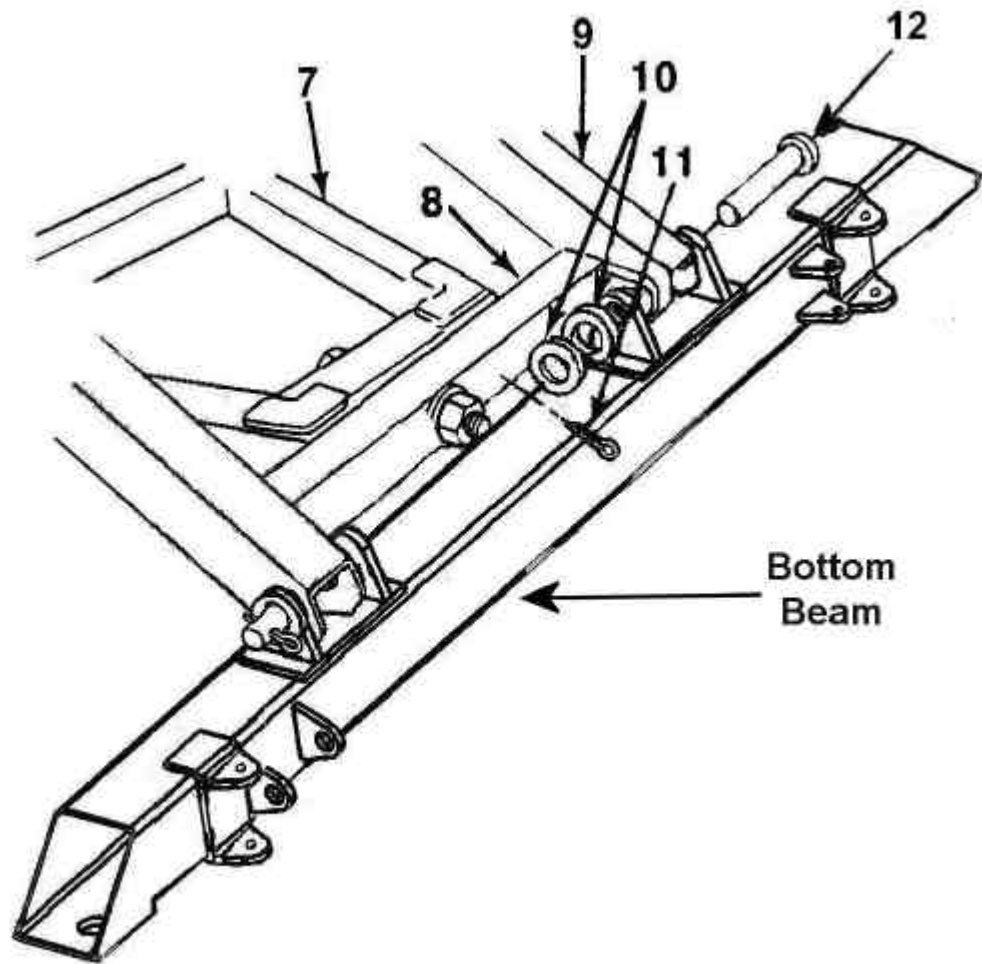

Figure 6
- Installation procedures are the same for the front and rear dollies. Figure 6 & 7 illustrates installation for the front dolly.
1. Attach the top and bottom beams and positioning cylinders to both the front and rear dollies (Figures 6 & 7) (Refer to Appendix C, Section b).
2. Install both stability cables (27) to mounts provided as shown in Figure 6
4. Install hanger brackets (front dolly). Position previously removed hanger bracket on upper vertical tube (34), 8 in (15.2cm) below top beam (19 – Rear, 20 Front). Reinstall U-bolt, and two flat washers with new locknuts.